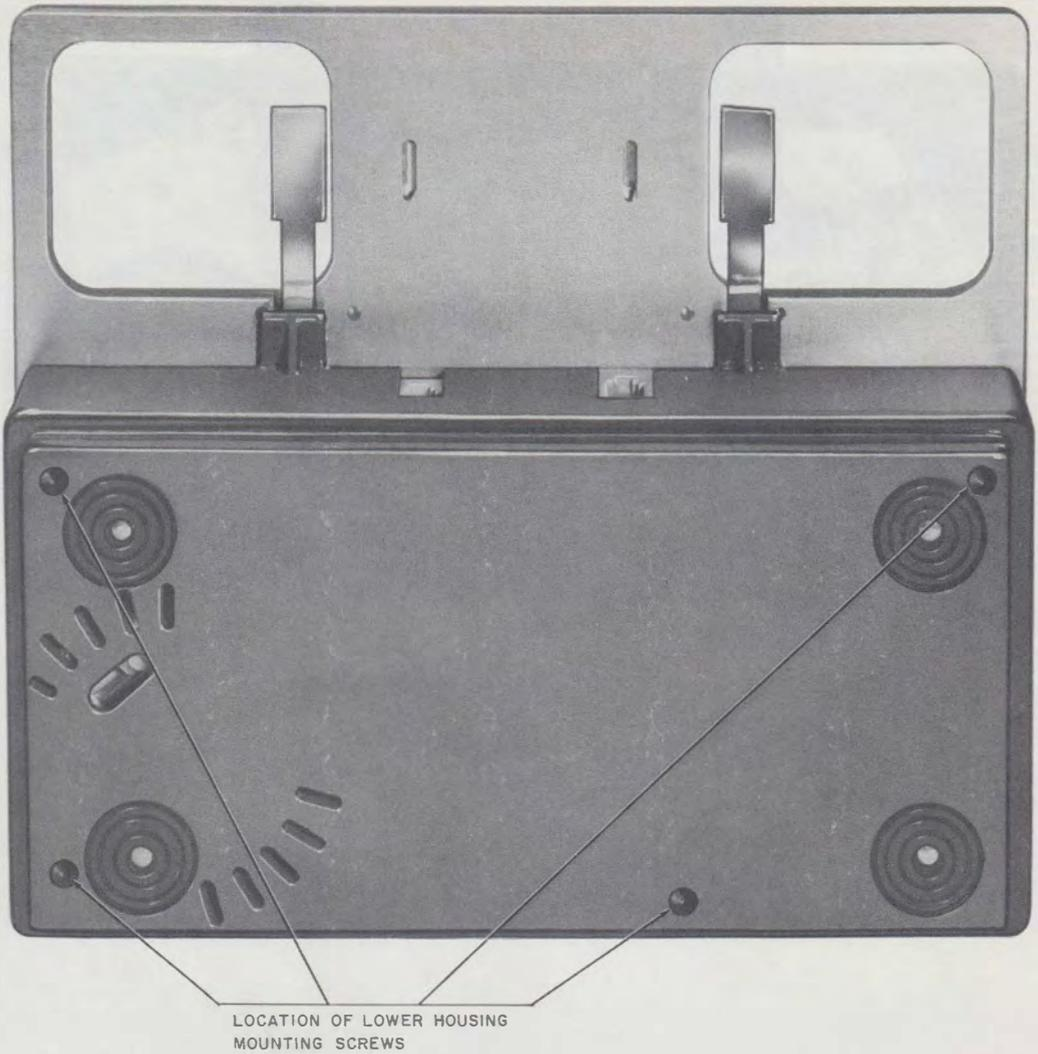

Fig. 6—930B-, 2930B-, or 2931B-Type Telephone Set, Bottom View
(1) Remove handset and mounting cords from the back of the telephone set.
(2) Remove the four lower housing mounting screws (Fig. 6).